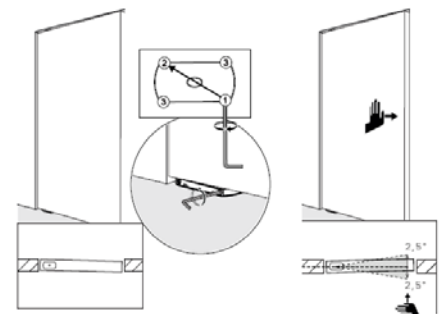

Figure 14:
8. To fine tune the radial position of the floor plate see Figure 14.